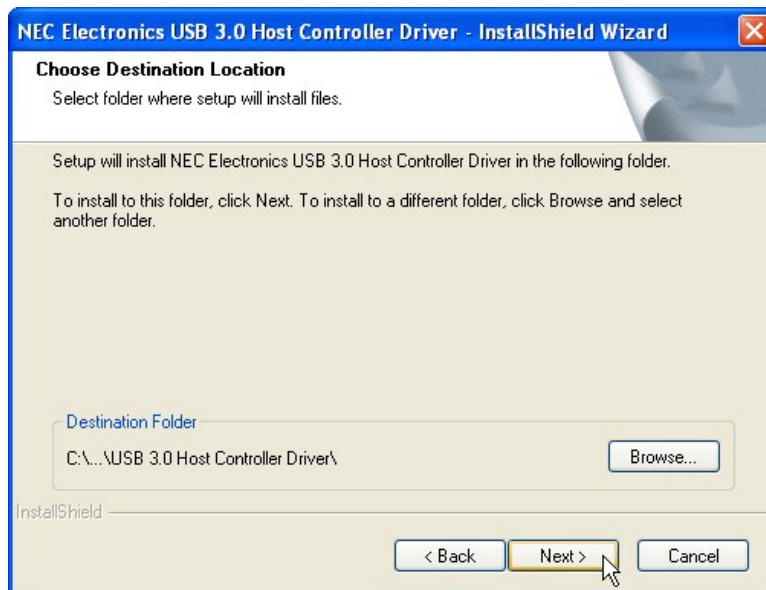

Figure 6-30: USB 3.0 Driver Choose Install Location
Step 9: Browse for an install location or use the one suggested (**Figure 6-30**).